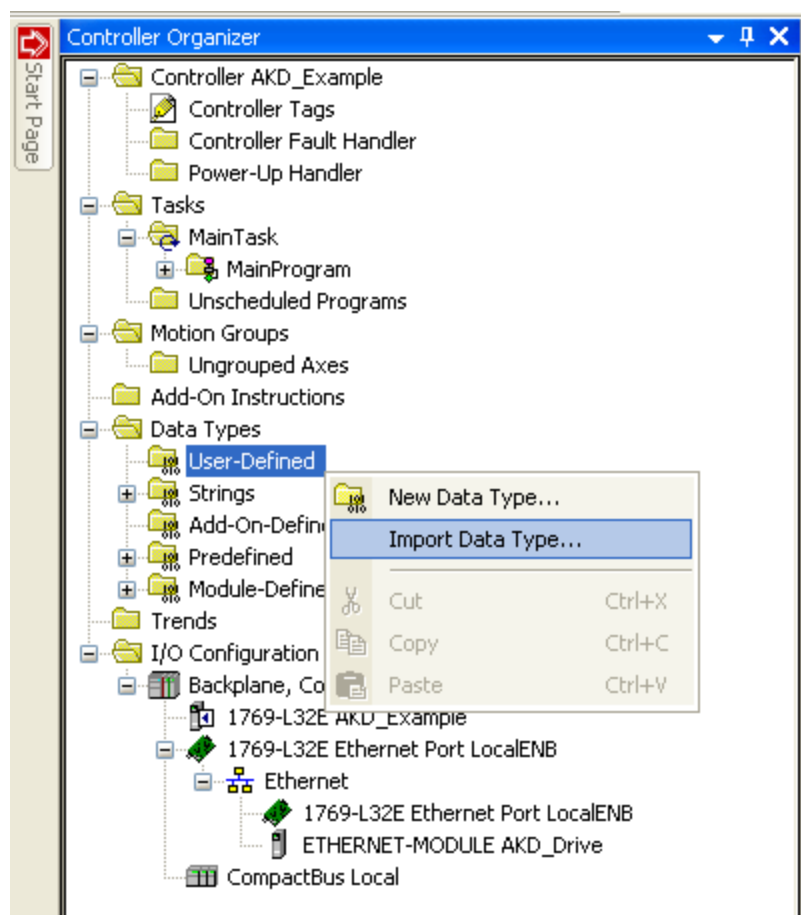

Figure 4-6: Importing Data Types
1. Right click the “User-Defined” folder under “Data Types” and select “Import Data Type...” (Figure 4-6: Importing Data Types)